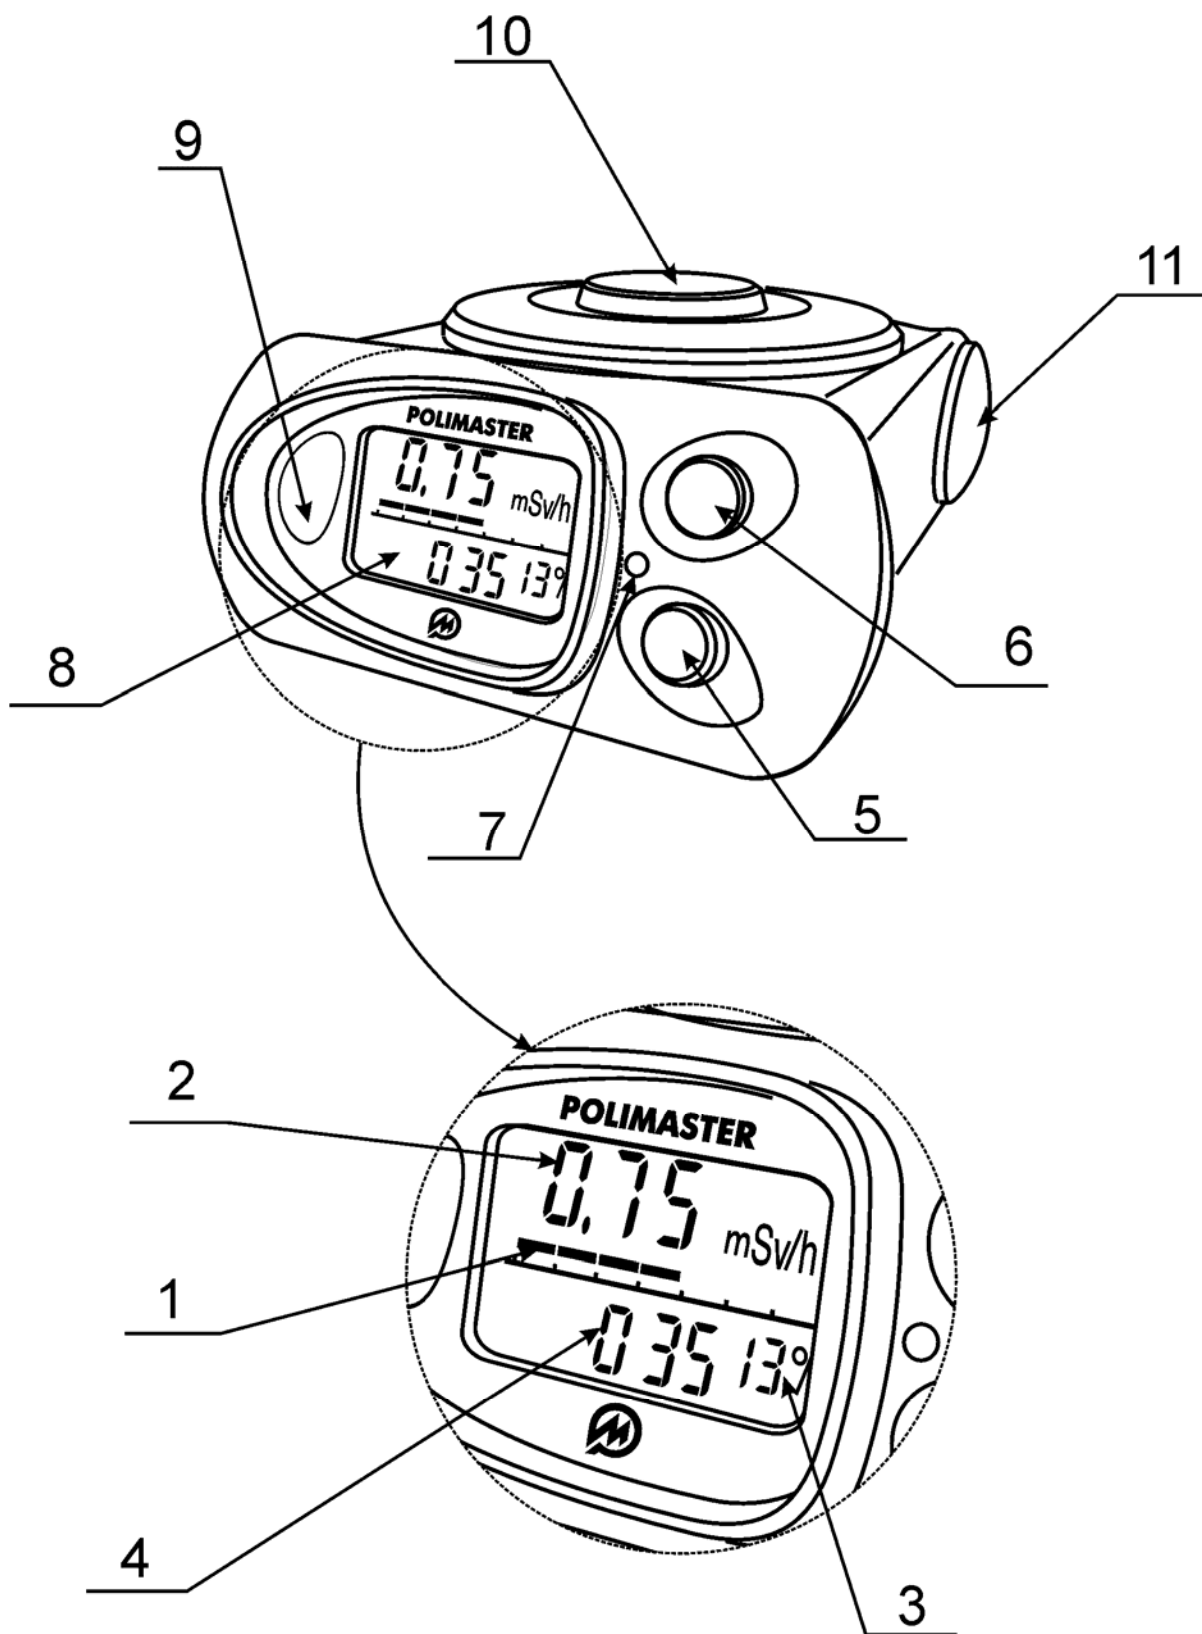

Figure 1.2 – General overview of the instrument
1.4.2 The device is designed as a unit housed in a plastic shock-proof case. General overview of the instrument and its parts is given in Figure 1.2. Indication elements, positions **1 - 4**, are displayed on the LCD (**8**).
- Figure 1.2, Item 2 - DER values output.
- Figure 1.2, Item 3 - output of the coefficient of variation values – Off.
- Figure 1.2, Item 4 - output of DER values averaging – Off.
- Figure 1.2, Item 2 - DE values output.
- Figure 1.2, Item 3 - Output of DE accumulation time values in thousands hours (symbol **h** is indicated at DE accumulation time less than a thousand hours).
- Figure 1.2, Item 4 - Output of DE accumulation time values in hours -
- Figure 1.2, Item 4 - Output of values of time remaining for staying at the
- Figure 1.2, Item 2 - Dosimeter's number.
- Figure 1.2, Item 3 - Month of the dosimeter's production.
- Figure 1.2, Item 4 - Year of the dosimeter's production.
In the DE mode the indication (Figure 1.2, items 3 and 4) of values of time remaining for staying at the working place depending on the current measured DER and DE values is possible. Calculation of time is performed relative to the second preset DE threshold (the function may be switched on at the DE indication mode configuration).